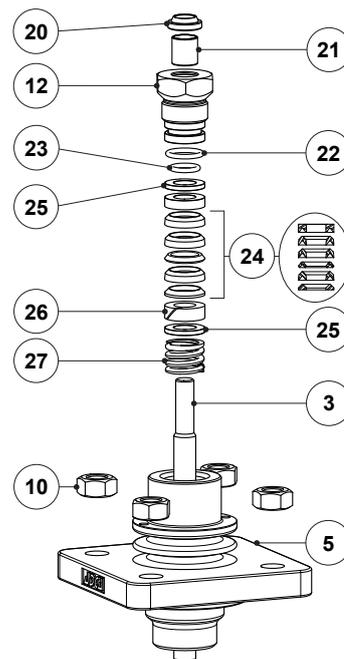

Fig. 9 - PTFE V-Rings
1. Unscrew the lock nut (13) from the stem (7).
2. Unscrew the packing nut (12) and remove it carefully together with the O-rings (22, 23).
3. Carefully pull the valve plug (3) with plug stem (7) out of the bonnet (5) through its bottom. Inspect the stem surface and plug sealing surface, replacing if necessary.
5. Clean the packing box and slide the stem (7) into the bonnet (5) once again.
6. Apply a suitable lubricant to all steam-sealing components and stem (7).
7. Carefully slide the stem sealing components into the packing box according to Fig. 9.
8. Renew the scraper ring (20), plain bearing (21), and O-rings (22, 23) if necessary. Fit the O-rings (22, 23) and the plain bearing (21), screwing it loosely.